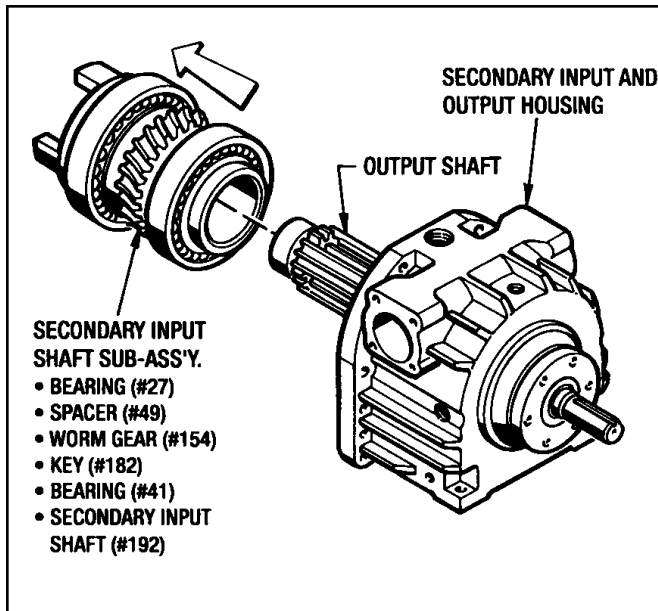

Figure 7.12 - Removing Secondary Input Shaft Sub-Assembly
1. Unscrew (6) Screws (#159) and (6) Lockwashers (#1 28) and remove the Bearing Retainer (#162).
3. Slide the Secondary Input Sub-Assembly out of the housing over the Output Shaft. (See Figure 7.12)